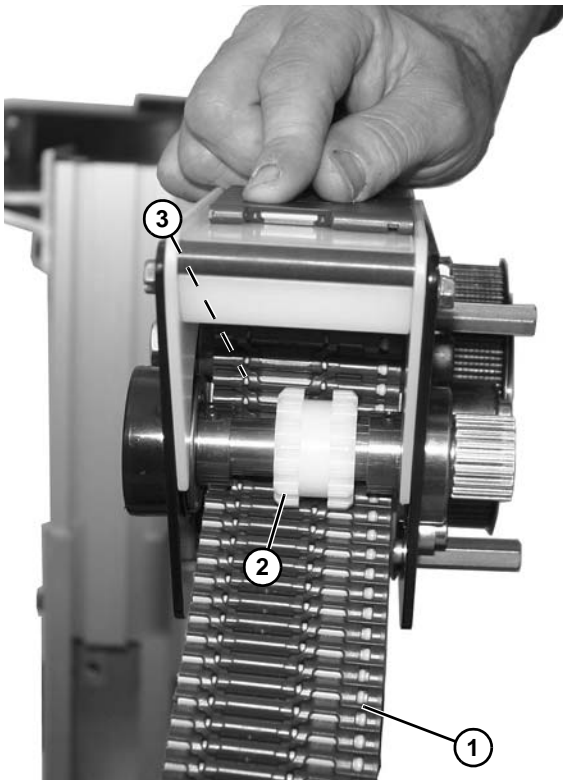

Figure 173
6. Guide belt (Figure 173, item 1) through idler assembly with belt routing under gear (Figure 173, item 2) and over wear tube (Figure 173, item 3).